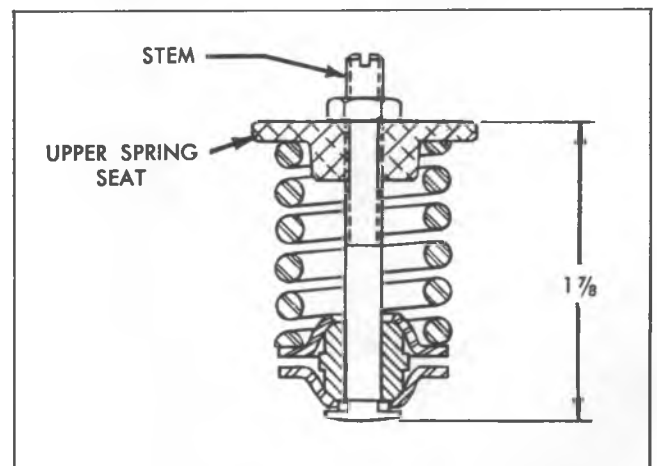

Fig. 27G--Adjusting Screw Measurement
2. Thread adjuster screw into upper spring seat until the dimension from the top of the seat to the bottom of the stem head is 1-7/8" as shown in figure 27G; then mount adjuster screw and spring assembly in a vise having soft jaws.